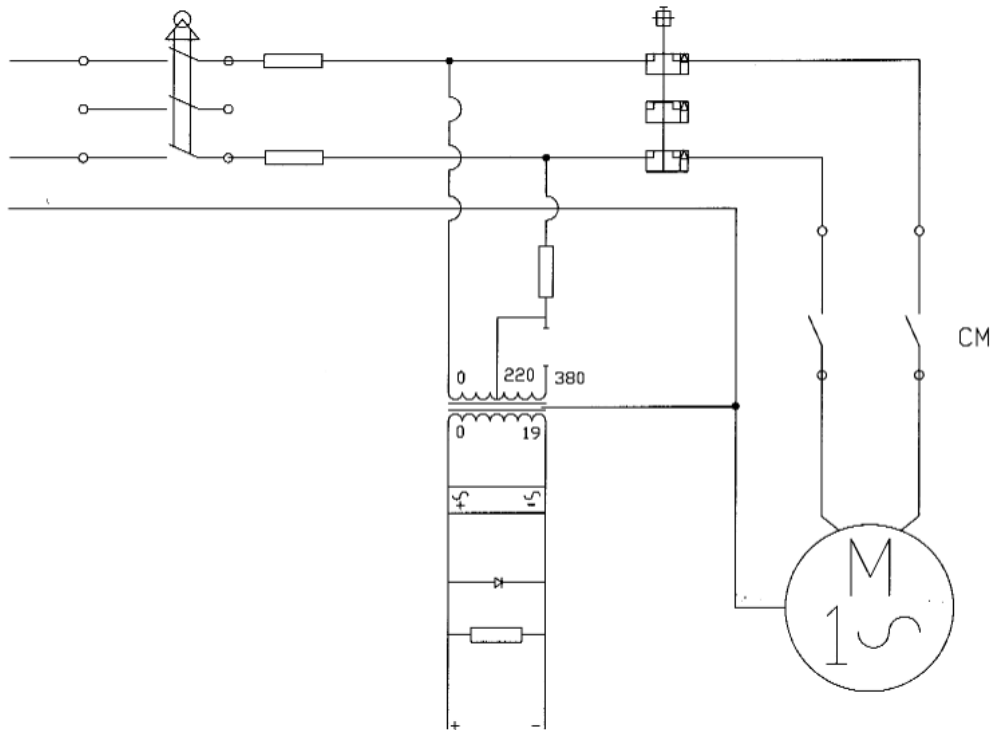

Figure 5 - Electrical Diagram
- Connect a power cord to the control desk as shown in Figure 5.
- Connect control lines (pre-fitted to the lift) to the control desk as shown in Figure 5.